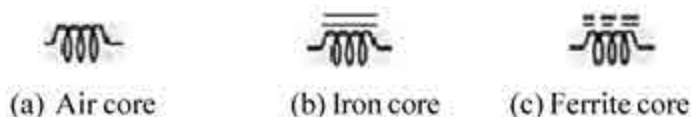

Fig 1.21 Symbols of Inductors
An inductor is a device that stores electrical energy in the magnetic field surrounding it. Inductance is the property of a coil (the inductor) to oppose a change in current. In its simplest form, an inductor consists of a wire loop or coil. The inductance of an inductor is directly proportional to the number of turns in the coil. Inductance also depends on the radius of the coil and on the type of material (core) around which the coil is wound. The schematic symbols for inductors are shown in figure 1.21. The unit of Inductance is henry (H).